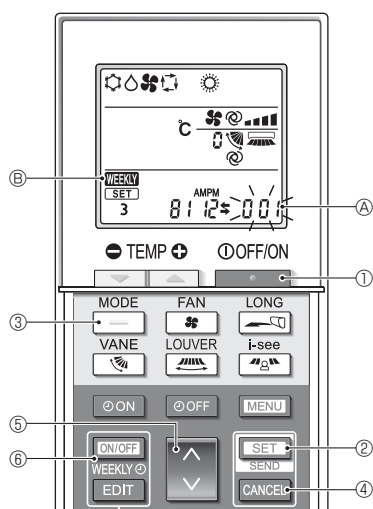

Fig. 4-9
#### 4.9.8. How to disable Auto mode operation (Fig. 4-9)
- Press the **OFF/ON** button ① to stop the air conditioner.
- If the weekly timer is enabled, press the **ON/OFF WEEKLY** button ⑤ to disable the timer. (**WEEKLY** ⑥ disappears.)
- Press the **SET** button ② for 5 seconds.
- The unit enters the function setting mode. (The group model setting number ④ blinks.)
- Press the **SEND** button ④.
- Completing the settings (Fig. 4-9)